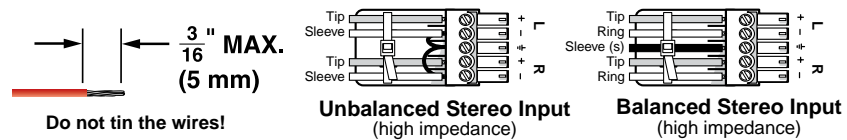
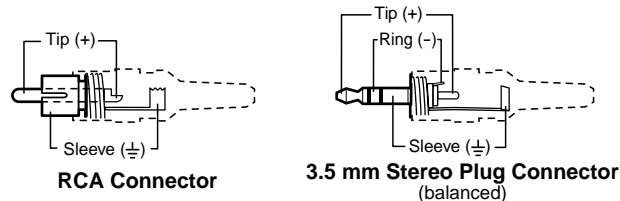
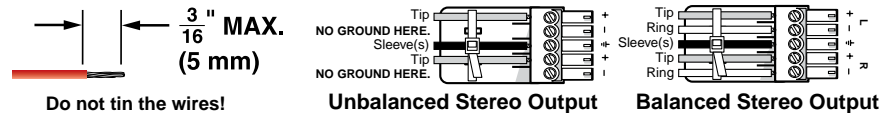

Figure 2-18 — Captive screw connector wiring for audio inputs
Figure 2-19 — Typical audio connectors
Figure 2-20 — Captive screw connector wiring for audio output
- ④ Connections for balanced and unbalanced audio inputs — Each input has a 3.5 mm, 5-pole captive screw connector for balanced or unbalanced stereo audio input. Connectors are included with each switcher, but you must supply the audio cable. See figure 2-18 to wire a connector for the appropriate input type. Use the supplied tie-wrap to strap the audio cable to the extended tail of the connector. High impedance is generally over 800 ohms.
See figure 2-19 to identify the tip, ring, and sleeve when you are making connections for the switcher from existing audio cables. A mono audio connector consists of the tip and sleeve. A stereo audio connector consists of the tip, ring and sleeve. The ring, tip, and sleeve wires are also shown on the captive screw audio connector diagrams, figure 2-18 and figure 2-20.
- ⑤ **Connections for balanced and unbalanced audio outputs** — These 3.5 mm, 5-pole captive screw connectors output the selected unamplified, line level audio. Connect audio devices, such as an audio amplifier or powered speakers. See figure 2-20 to properly wire an output connector. Use the supplied tie-wrap to strap the audio cable to the extended tail of the connector.